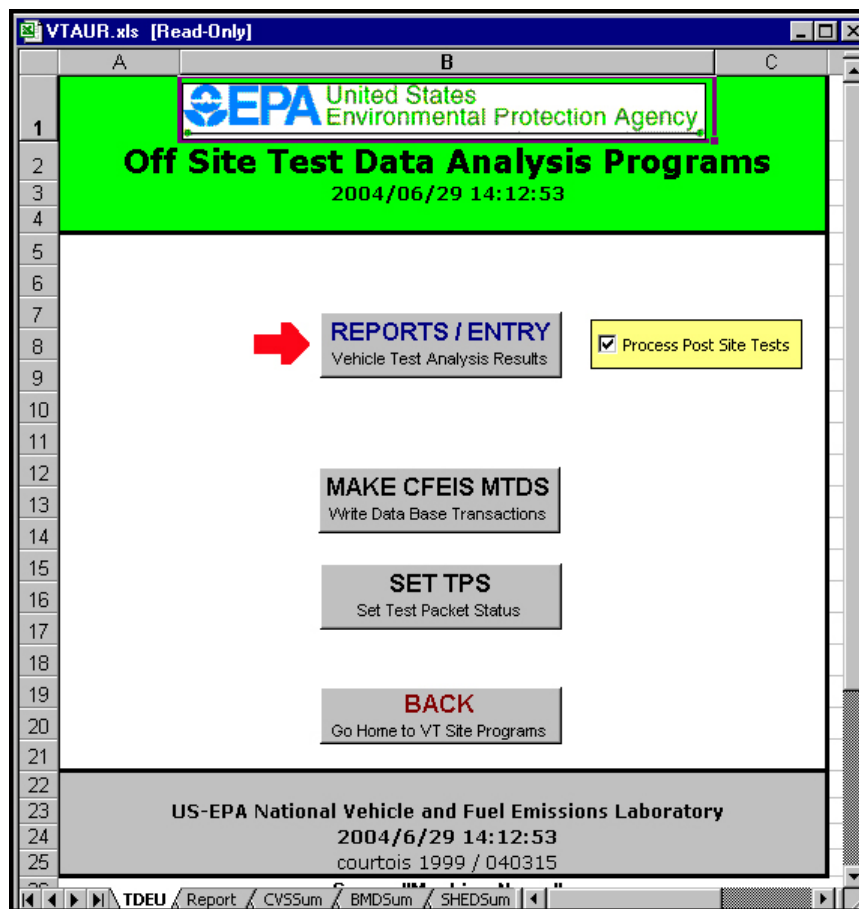

Figure 51
- 620 The "Off Site Test Data Analysis Programs" screen will appear. Click on the "REPORTS/ENTRY Vehicle Test Analysis Results" button. See the arrow in Figure 51.